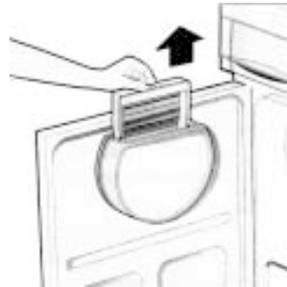

Fig. 1
1. Remove the filter on the door from its holder by pulling it upwards (Fig. 1).